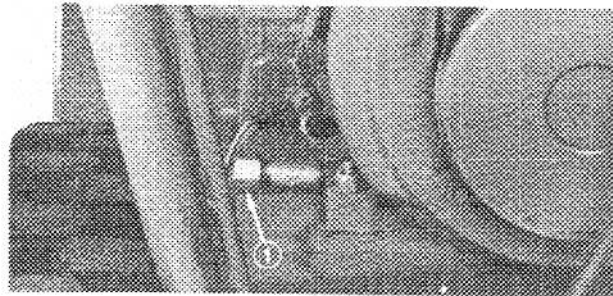

Figure 23
3. Clean area around oil drain cap. Next, slide oil drain pan below drain extension; then remove oil drain cap (Fig. 23).